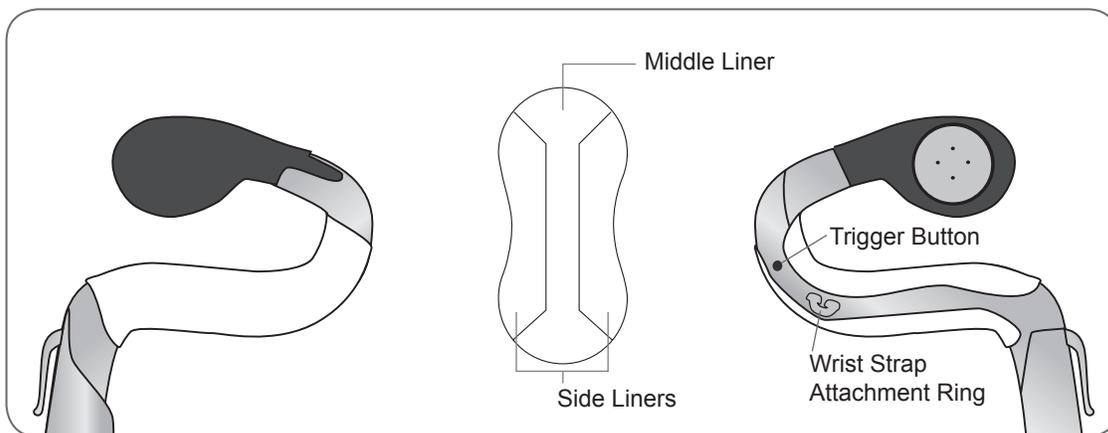

Figure 6-8: Wrist insert cover adhered to wrist insert.
5. Make sure the entire wrist insert is covered. See Figure 6-8.